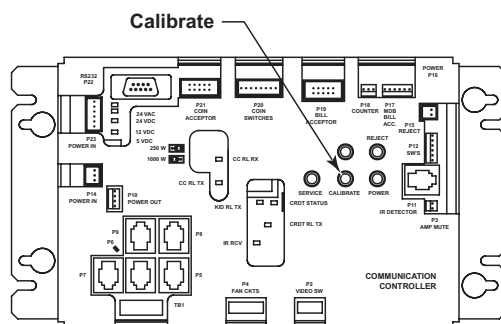

FIGURE 3-5 - COMMUNICATION
1. Press the “Calibrate” button on the Communication Controller (see Figure 3-5). Press the button in once to launch the calibration program. This will override the application while the program runs. See Figure 3-6 for a picture of the calibration program interface.